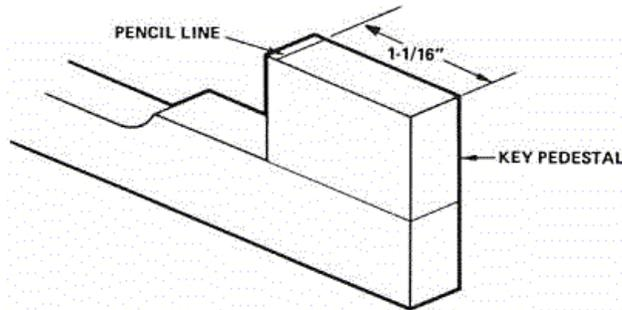

Figure 6-4. Key Pedestal - Pencil Line Dimension
10. Scribe a pencil line along the top of each Key Pedestal  $1-1/16"$  (26.988mm) from the rear surface farthest from the Key Cap (Figure 6-4).